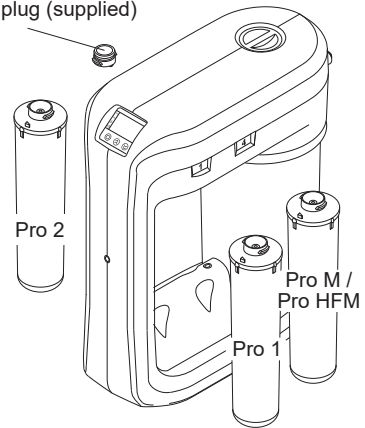

Fig. 10
- Install the cartridges as shown in Fig. 10.